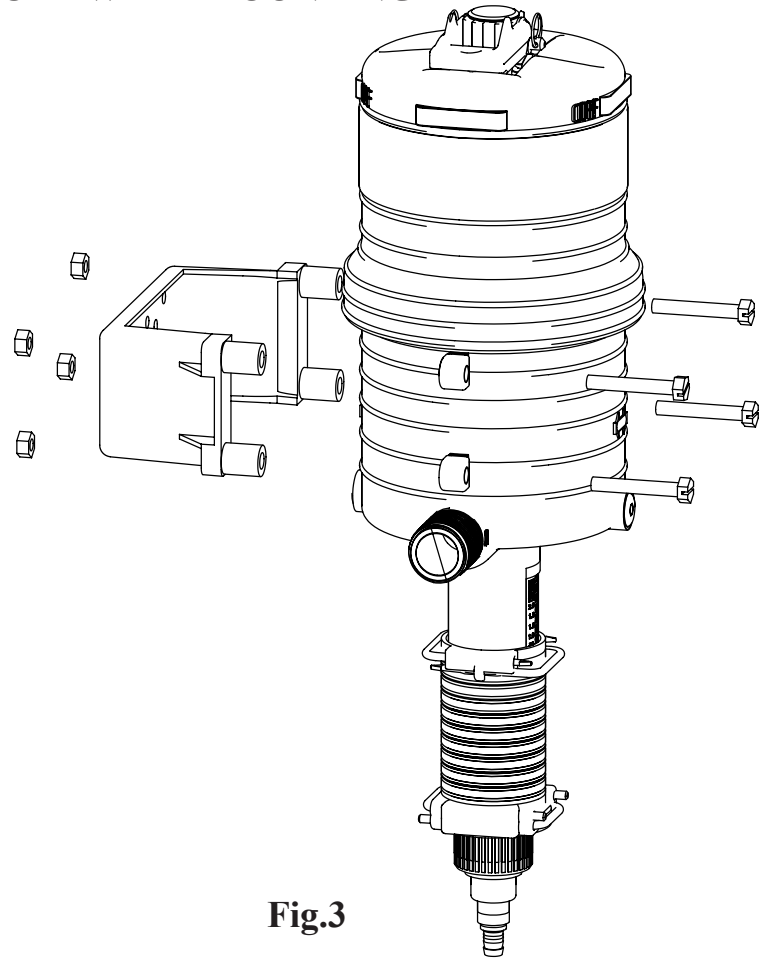

Fig.3
- 2. MOUNT INJECTOR:** Securely to a solid object such as a wall. Note arrow on injector indicating water flow. See fig. 3.